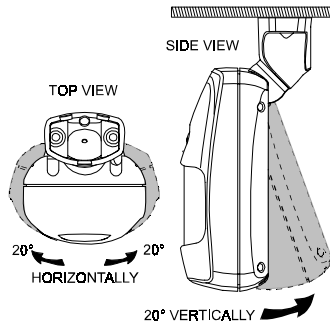

Figure 10. Tilt/Swivel Limits
J. Tilt down or swivel the detector to face the desired direction. Fig. 10 shows the various possibilities of tilting and swiveling.